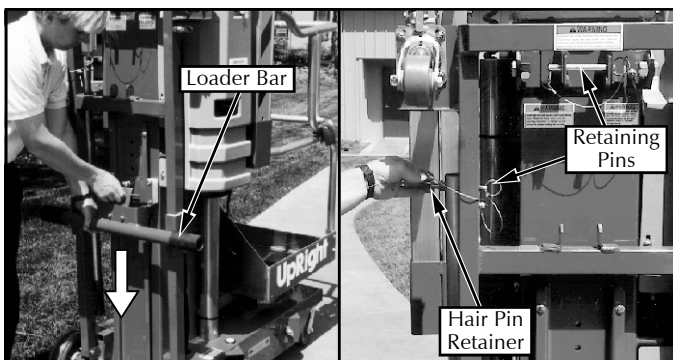

Figure 3-8: Loader Bar / Strut
2. Release the gravity hook and lower the Loader Bar (fig. 3-8).
3. Unpin the top of the Strut and remove it from the storage pocket on the Tilt Back Frame (fig. 3-8).
4. Unpin the lower end of the Strut and return it to its storage pocket. Insert the lower Retaining Pin into the upper end of the Strut and secure it with the Hair Pin Retainer, wrapping the cable around the leg of the Tilt Back Frame (fig. 3-8).